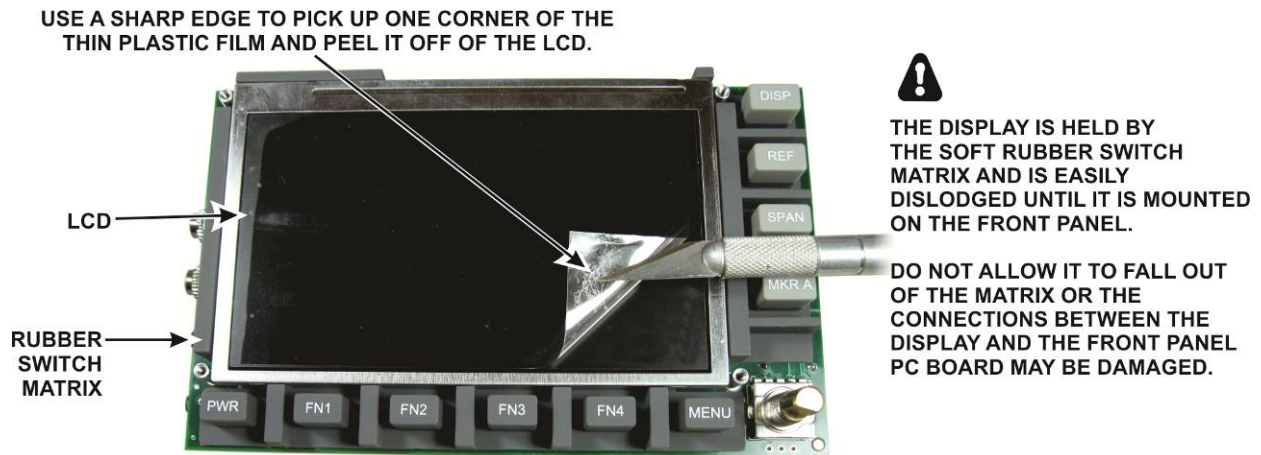

Figure 30. Removing the Plastic Film from the LCD.
□ Replace the LCD in the rubber matrix and lay the front panel board face up on your work table. Remove the thin plastic film over the LCD using a sharp edge to pick up one corner as shown in Figure 30 and then peel the plastic off of the LCD.